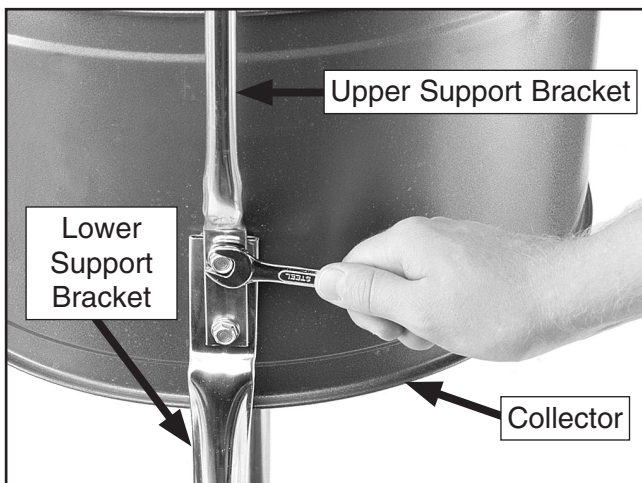

Figure 9. Mounting collector to brackets.
- Secure the front lower support bracket to the collector with (2) $\frac{5}{16}$ "-18 x $\frac{1}{2}$ " flange bolts.
- Place the upper support bracket over the lower support bracket, and secure with (2) $\frac{5}{16}$ "-18 x $\frac{1}{2}$ " flange bolts, as shown in **Figure 9**.